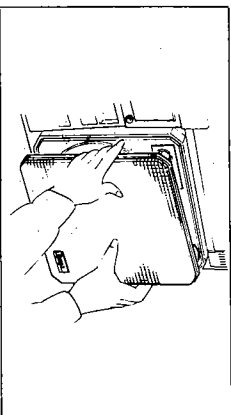

Figure 12
- Force the speaker net out by supporting its rubber frame with the fingers. To reset it, fit the four corners of the rubber frame into the unit and straighten them carefully. (Refer to Figure 12)